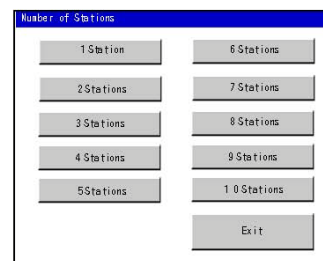

Figure 3-SS
- The Number of Stations screen displays (Figure 3-SS).